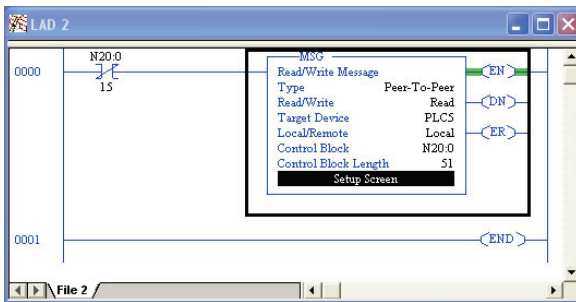

Figure 85: Completed PLC Program
7) The program is now complete. Refer to Figure 85.